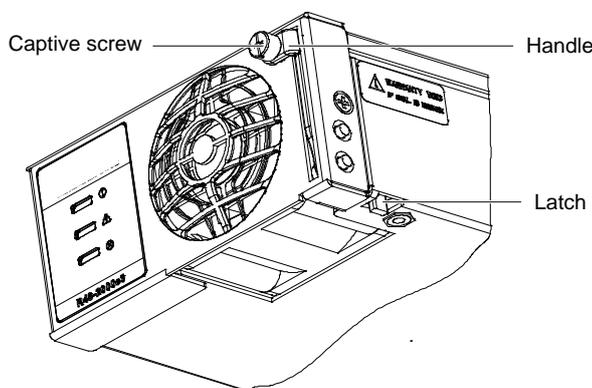

Figure 4-5 Installing a rectifier
2. Loosen the captive fastener securing the top of the latch mechanism to the front of the Rectifier. Pull the top of the latch mechanism away from the Rectifier (this will retract the latch mechanism located on the underside of the Rectifier). Refer to Figure 4-5 for latch mechanism illustration.